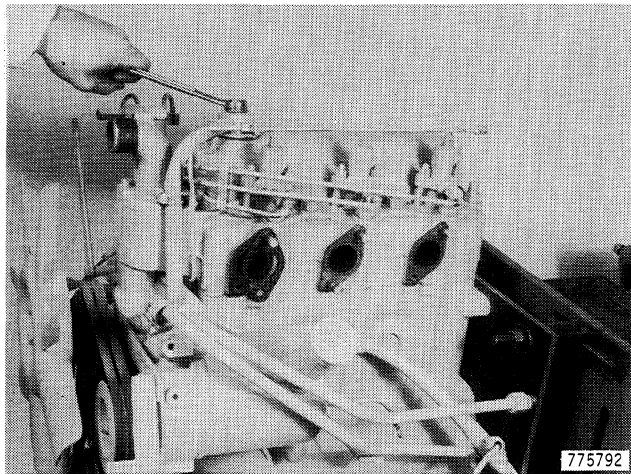

Figure 46
21. Remove the nut from the vent tube, Figure 46.